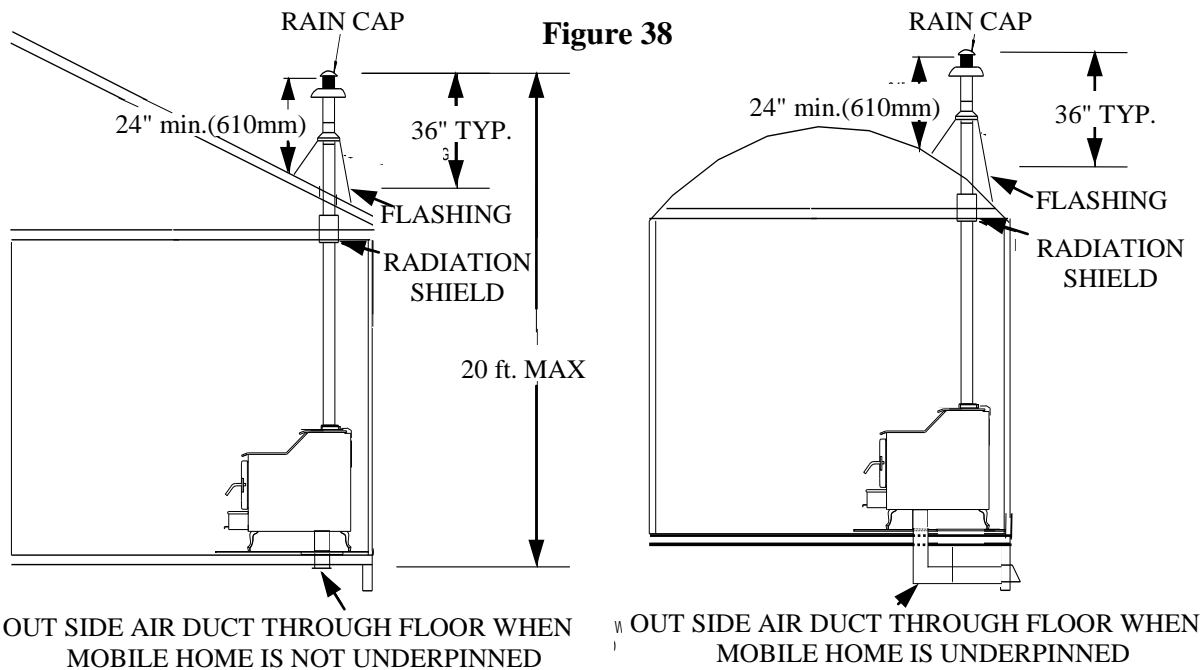

Figure 38
10. Slide the outside air duct up to the bottom of the heater and attach it with the screws supplied with the kit, using a wrench or ratchet. (See Page 43 Figure 38)
- Note:** If the mobile home is underpinned you must provide extra pipe (NOT INCLUDED IN PACKAGE) to extend outside air ducting through underpinning or foundation of mobile home. The inlet of the outside air duct must be in the same atmospheric as pressure the exhaust . (See Page 43 Figure 38).
- (b) Chimney pipe height is at least 2 feet higher than any part of the roof within 10 feet of the chimney. (See Page 43 Figure 38.)